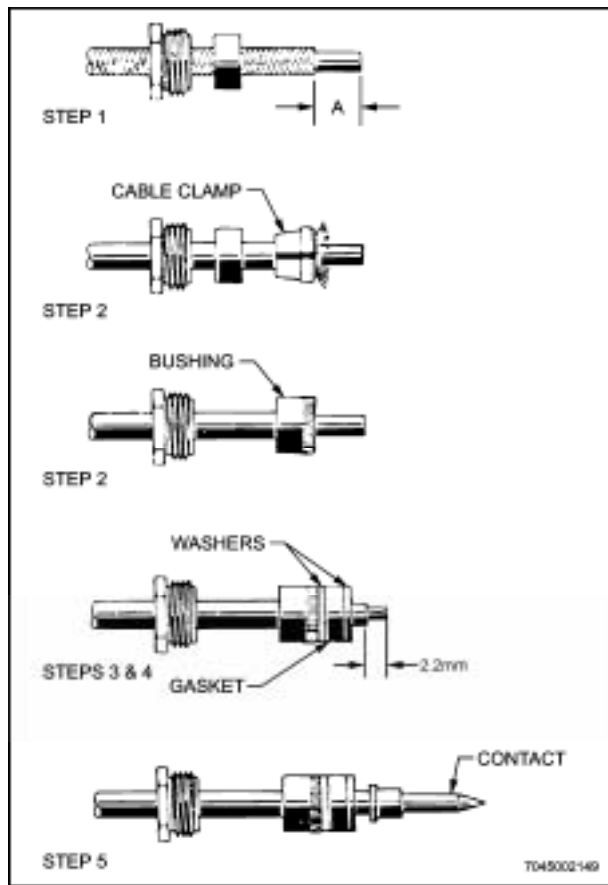

Figure 12-43 Attaching Liquidimeter S62 and S63 Series Connectors to Coaxial Cable
- c. Clamp the braid between the two eyelets with special slotted pliers, as shown in Figure 12-43. Trim off excess braid.
37. For assembly of Liquidometer S62 and S63 series connectors to RG-58/U coaxial cable (see Figure 12-43), use the following procedure: